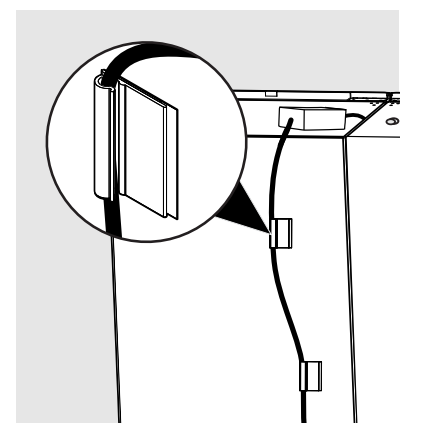

Fig. 6
- Use the clips provided to hold the excess power cords to the back of the units such that all wires are away from the floor (Fig. 6).